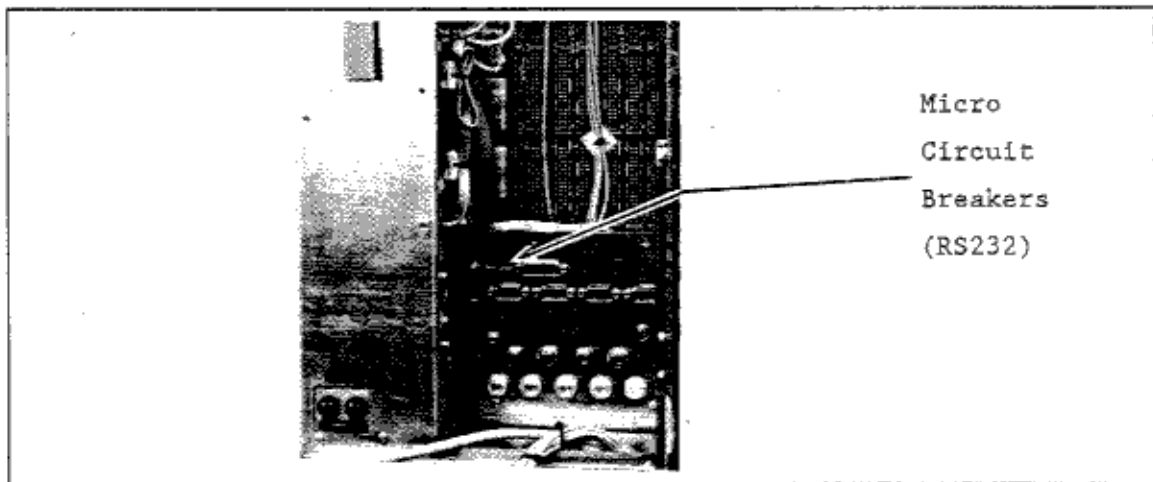

FIGURE 7-1 MICRO-CIRCUIT BREAKERS
7. If the workstation does not respond to the keyboard, check to see that the connecting cables are securely plugged in. If they are, a micro-circuit breaker on the backplane assembly may be tripped. These three circuit breakers (Figure 7-1) protect the RS232 circuits. To reset, press them with a small screwdriver or pencil point.